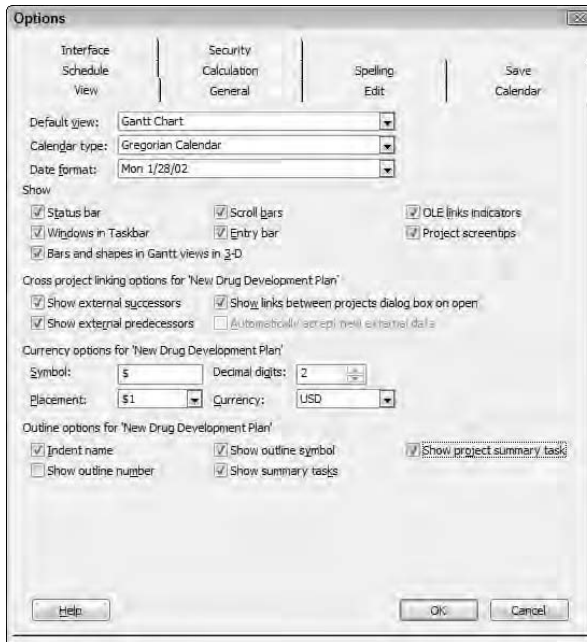

Figure 4-8:
2. Click the View tab to display it (see Figure 4-8).